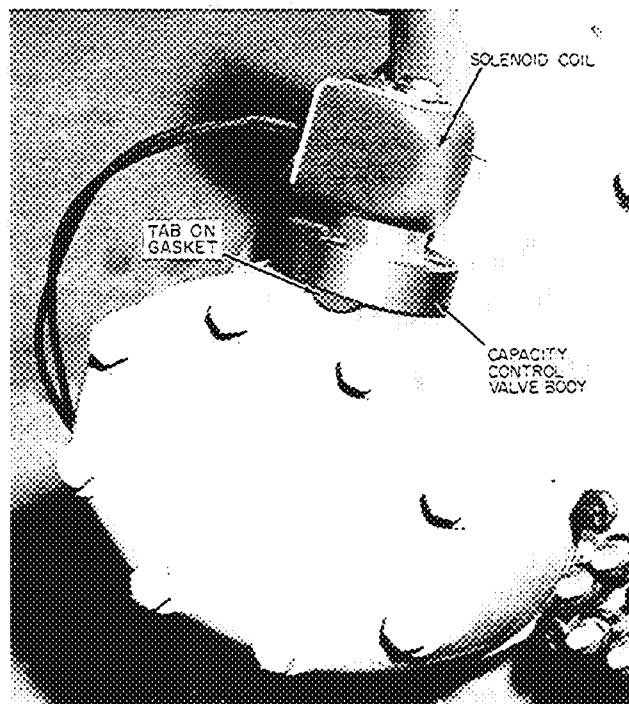

Fig. 1 – 06D Electric Capacity Control Valve
6. Wipe clean the walls of the head cavity and apply thin film of compressor oil. Carefully compress the bypass piston ring and insert the piston into the head cavity, being sure that the gasket does not shift. *The tab must be outward as shown in Fig 1.*